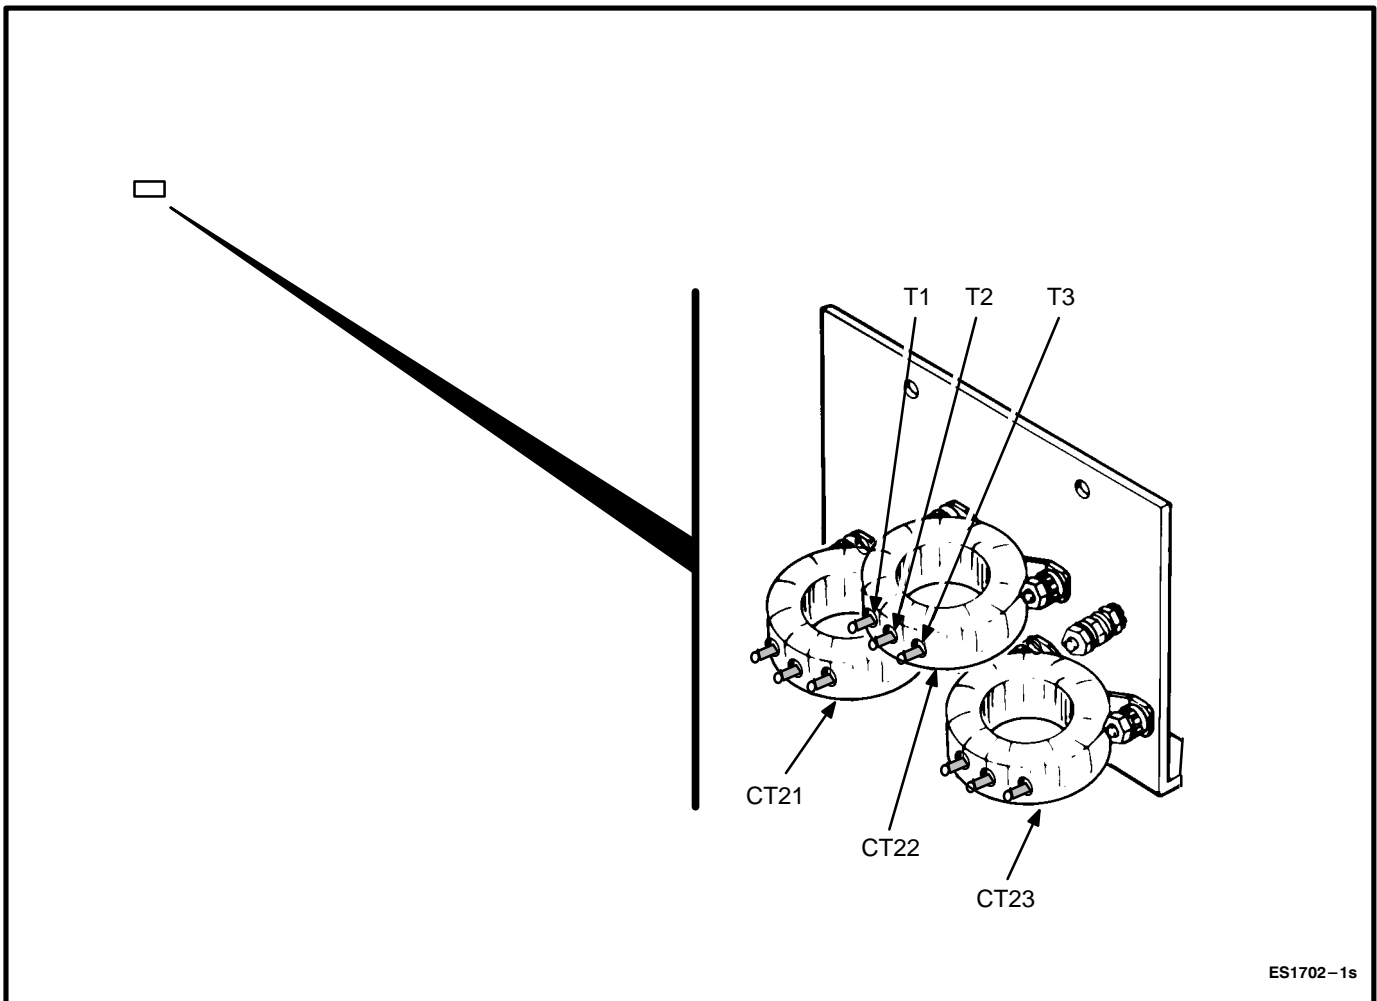

FIGURE 5-4. CURRENT TRANSFORMERS
4. Remove the appropriate lead from the current transformers (see Figure 5-4) and reconnect the lead to the appropriate terminal (T2 or T3). See pages 11-4 and 11-5 for typical connections at the current transformers.
When changing the output voltage of a genset that contains an optional AC ammeter, the generator output leads that are routed through the current transformers (CT) (see Figure 5-4) and the two wires that are attached to the CT terminals T1, T2 or T3, must be changed for proper meter operation.